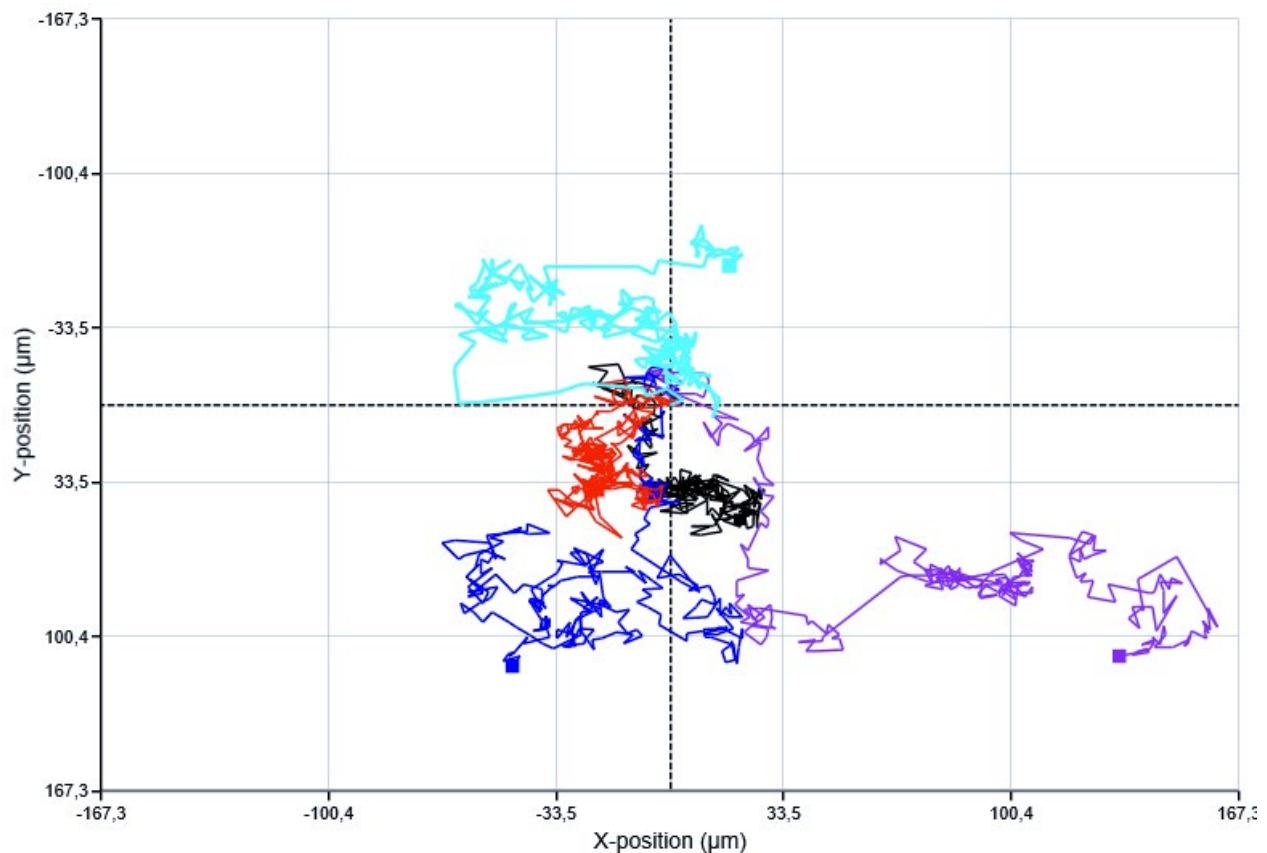

Figure 1. Cell movement tracks.
- 5 Go to **Plot movement** and check all cells to be included in the plot. The colored tracks show the movements of the selected cells, with the origin as the starting point for each cell (Figure 1). The plot can be saved as an image in several formats. If different samples (treatments) are to be compared it is recommended to adjust the X- and Y-scales to be identical for all samples before export to XML-files.